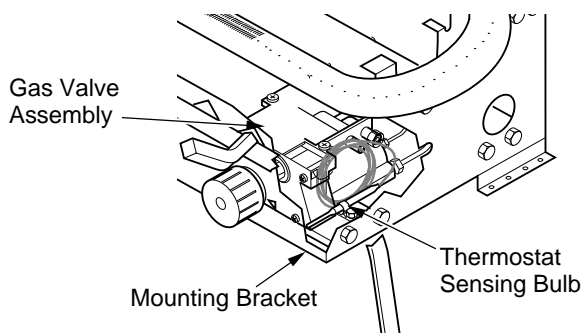

Figure 46 - Location of Gas Valve Assembly and Thermostat Sensing Bulb
1. Remove logs. Locate the gas valve assembly and thermostat sensing bulb (see Figure 46).